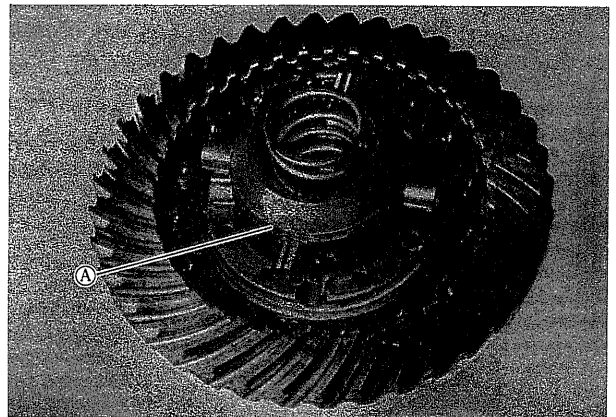

Fig. 59
- 4) Matchmark differential cases and remove case attaching bolt. Separate differential cases and take off No-SPIN differential assembly (A). (Fig. 59)